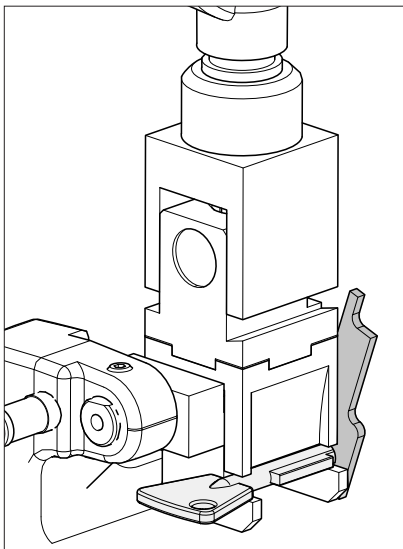

Fig. 47
- the reference for the key relates to the tip, up against the tracer point (original key) and up against the cutter (key blank), or use the stop bar up against the external left-hand side of the clamp (Fig. 47).